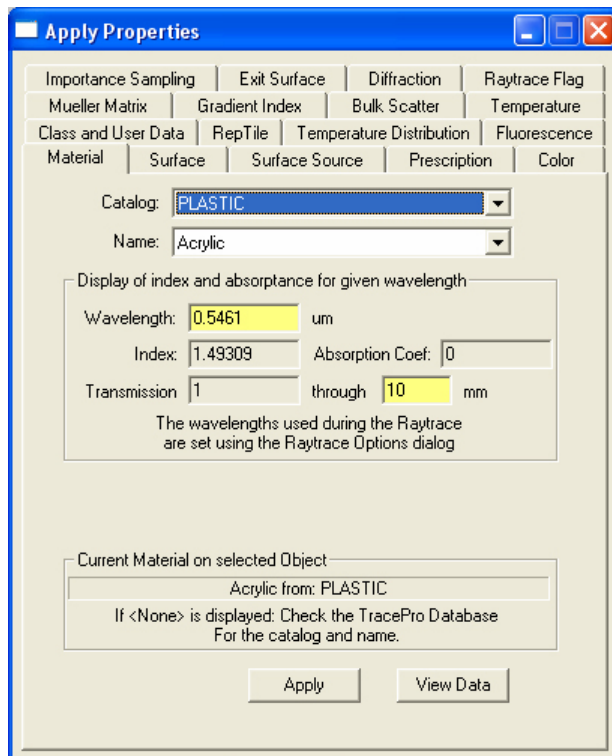

Figure 3. Apply properties for the Backlight Material.
12. Enter the parameters as shown in Fig. 3,